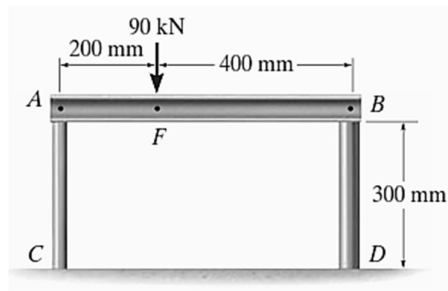

Fig. 1
1. Rigid beam  $AB$  rests on the two short posts shown in Fig. 1.  $AC$  is made of steel and has a diameter of 20 mm, and  $BD$  is made of aluminum and has a diameter of 40 mm. Determine the displacement of point  $F$  on  $AB$  if a vertical load of 90 kN is applied over this point. Take  $E_{st} = 200$  GPa,  $E_{al} = 70$  GPa [ $\delta_F = 0.225$  mm]